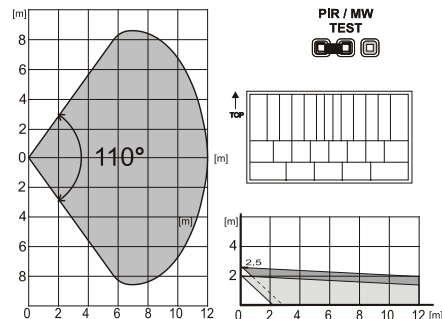

Fig 2: Coverage characteristics can be changed by using an alternative lens:
The PIR detector is equipped with a 110°/12m lens. Coverage – see Fig 2. Check the coverage with the jumper (8) in the “PIR” position. Movement is indicated by a red LED.